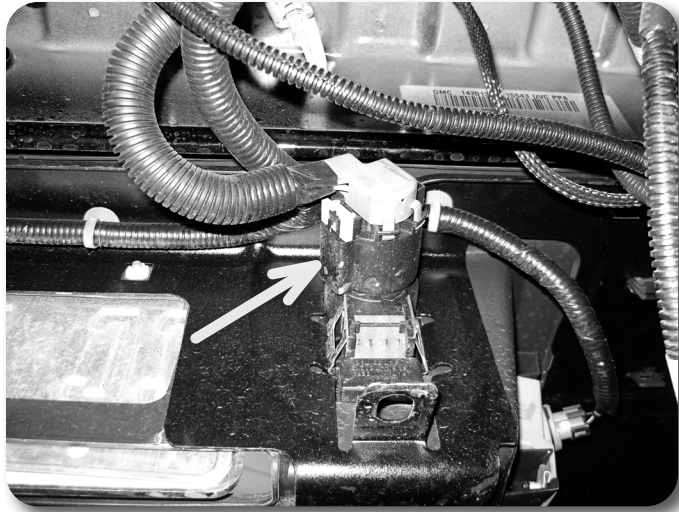

Figure 21
8. Disconnect the trailer wiring connector from the bumper Figure 21.